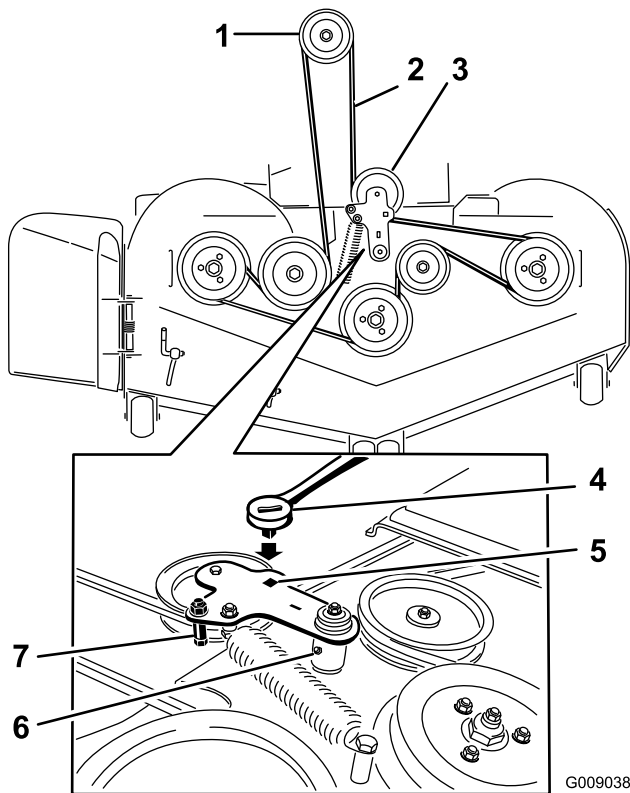

Figure 100
6. Lift up the floor pan and insert a ratchet into the square hole in the deck idler (Figure 100).
7. Rotate the deck idler clockwise and remove the mower belt (Figure 100).